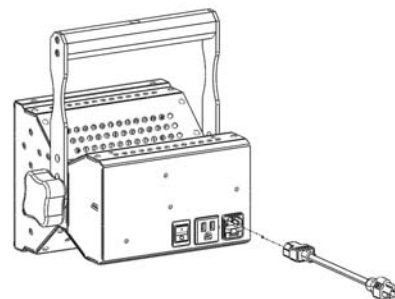

Figure 13
1. The IEC320 connector mates with the power inlet module (Fig. 13).